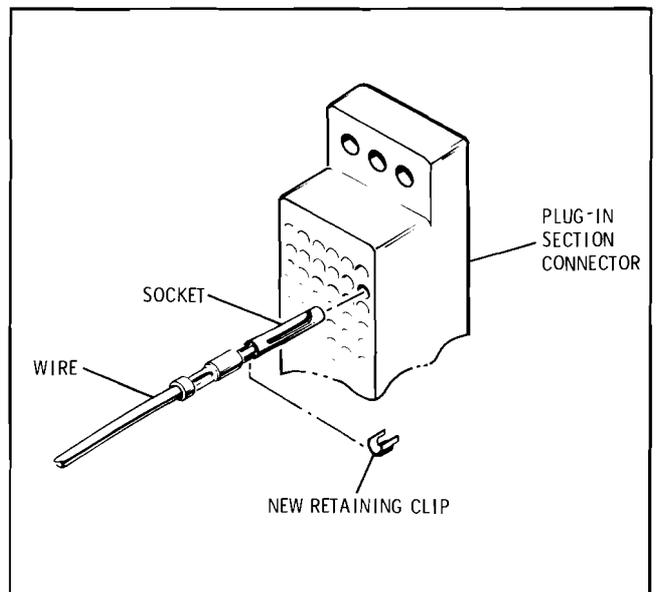

Figure 7-1. Connector Modification
1. Push the defective RF socket out of the Winchester connector. Use pin removal tool, HP part number 8830-0025. Replace the socket retainer clip with a new retainer clip, HP part number 1251-3044 as shown in Figure 7-1.